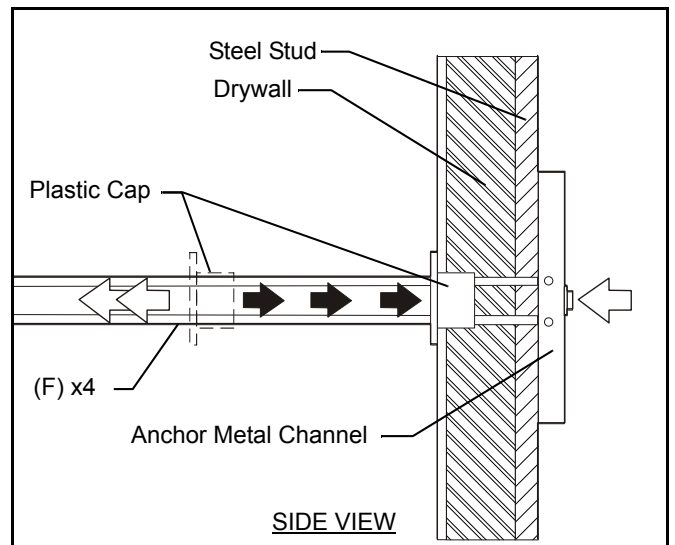

Figure 4
7. Holding plastic straps on anchor (F), pull anchor away from wall until channel rests flush behind wall making sure anchor channel is positioned vertically on stud as show in figures below. (See Figure 4)
8. Slide plastic cap on anchor (F) towards wall until flange of cap is flush with wall. (See Figure 4)